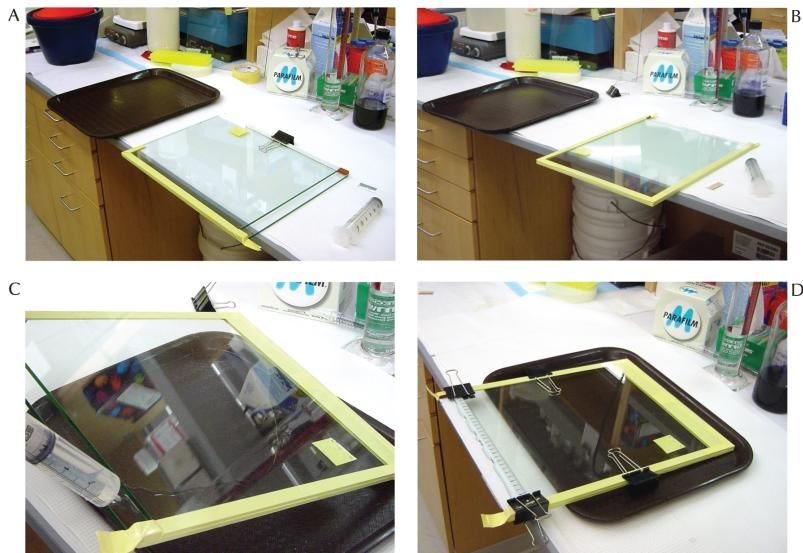

FIGURE 1. Preparing the gel plates and pouring the gel. (A) Partially taped plates. (B) Fully taped plates. (C) Pouring the gel. (D) Clamped comb in place.
4. Assemble the plates (Fig. 1) as follows: